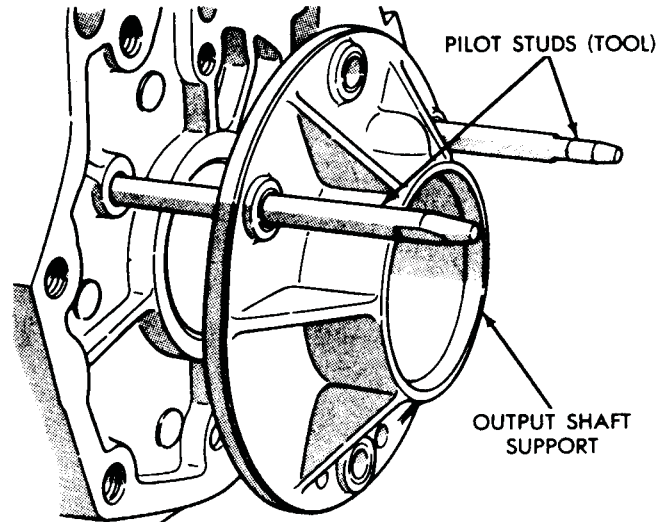

Fig. 25—Install Output Shaft Support
(7) Screw two pilot studs Tool C-3288-B into the case (Fig. 25). Position support over the pilot studs, and tap it firmly into the case with a soft-faced hammer.
(8) Remove pilot studs, install bolts and tighten to 150 in. lbs. (17 N·m).